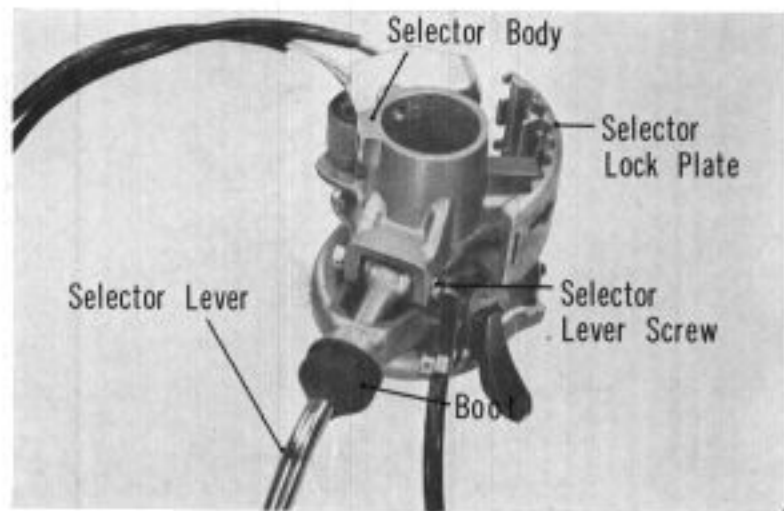

Fig. 7B-250
21. Remove the nut and unscrew the selector lever screw.(Fig. 7B-250)